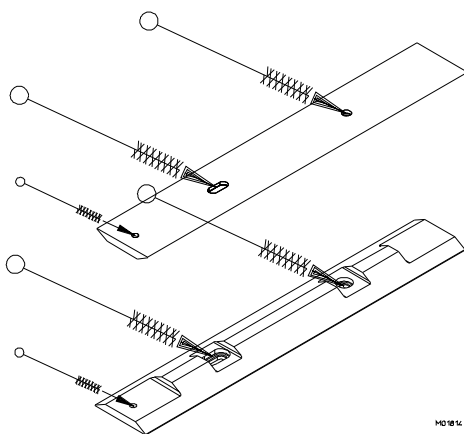

Figure 6-8 Clean scraper blades
- d. The beater shaft and the scraper blade pin holes, shown in figure 6-8.